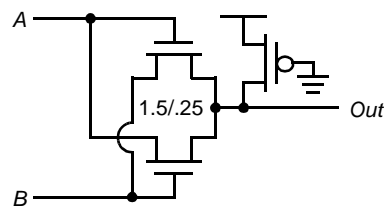

Figure 6.12 Pass-gate network.
16. [M, None, 4.2] Figure 6.12 contains a pass-gate logic network.